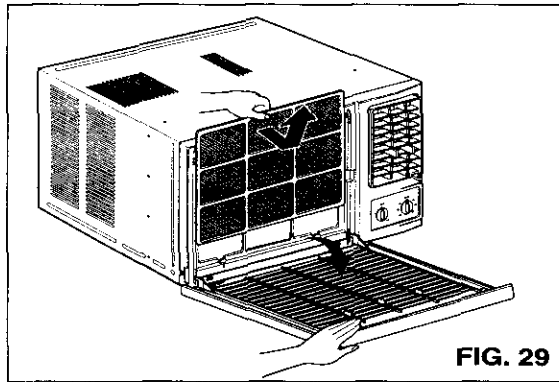

FIG. 29
- Pull the inlet grille forward, grasping both tabs, then pull out the air filter. (FIG. 29)